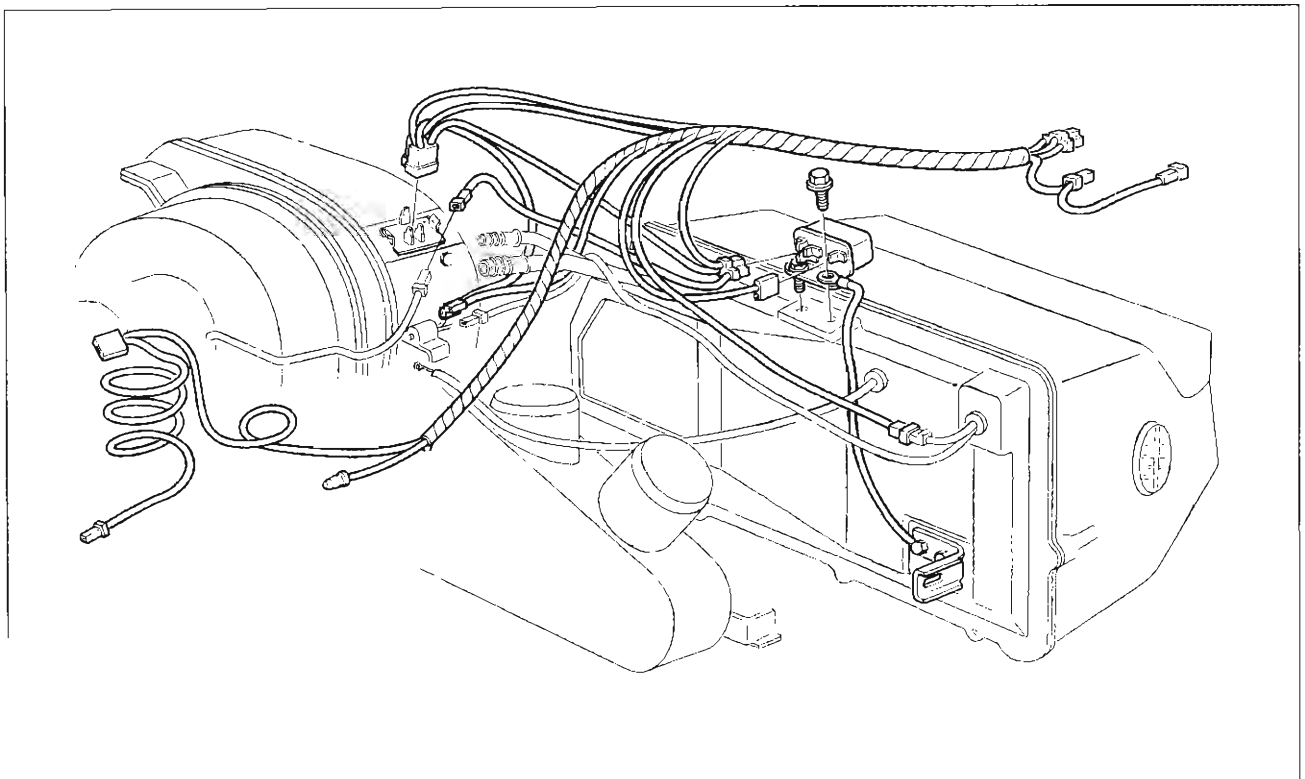

Fig. 57—Underdash Wiring—Chevy II All-Weather
10. Disconnect wiring connectors (see fig. 57) as necessary and remove the evaporator unit from the vehicle.